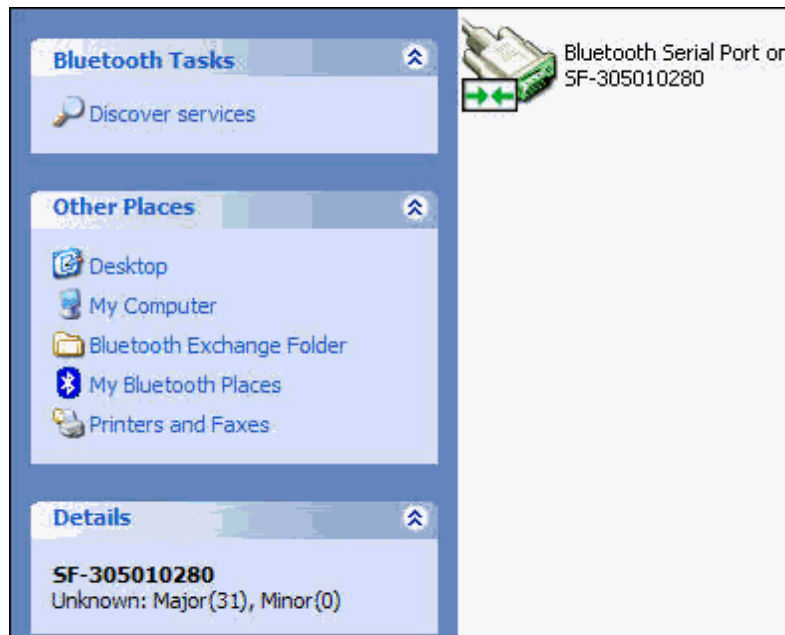
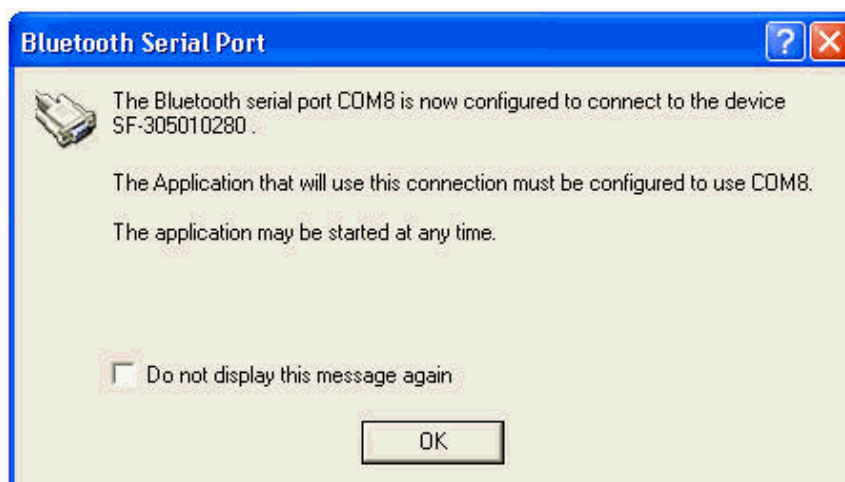

Figure 44: Bluetooth Virtual COM Port Connection Established
Figure 45: Bluetooth Virtual COM Port Connection Confirmed
7. Double-click the Bluetooth serial port icon. An icon with green arrows is displayed, indicating a connection is established between the Bluetooth Virtual COM port on the PC and the Bluetooth dongle (see Figure 44).
8. Double-click the Bluetooth Serial Port icon shown in Figure 44 to display the *Bluetooth Serial Port* dialog box, which confirms the configured COM port (see Figure 45).
14. Select the appropriate COM Port from the dropdown list (refer to Figure 45 above).